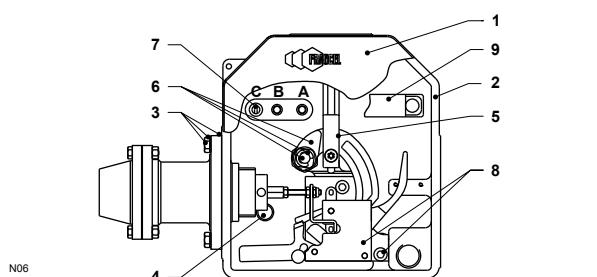

Figure 10. Mechanism Box for One BMS
The position of the travel stop (Figure 10, key 7) depends on the type of assembly and its size. Position A, B or C depending on max. travel of slam shut valve: A = 15 mm travel, B = 35 mm travel, C = 50 mm travel.
- **Mechanism box (BM) intervention**